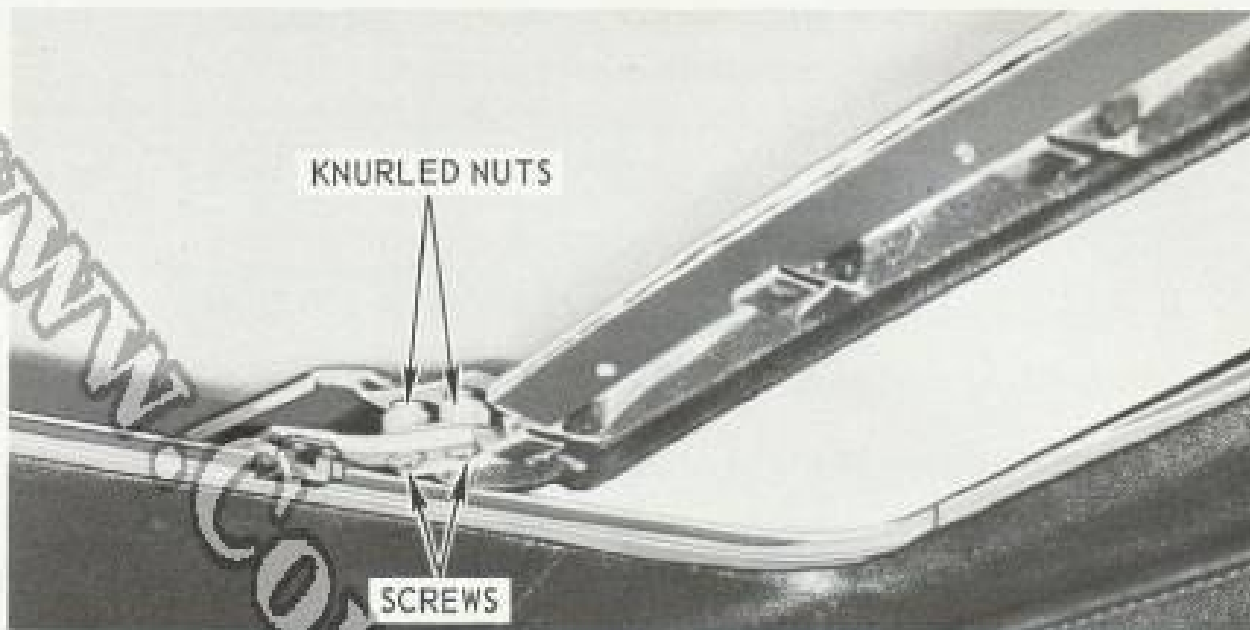

Fig. 25 - Front Slide Installation on Guide Rail Upper Track
25. Install outboard screws and tighten both screws on each slide. Refer to figure 25.
To obtain a flush fit on one side of the front of the roof panel to roof, loosen both front slide screws and turn the knurled nuts clockwise to raise the roof panel, and counterclockwise to lower the panel. See figure 25. After desired flushness is obtained, tighten screws. Adjust the opposite front slide in the same manner, if required.